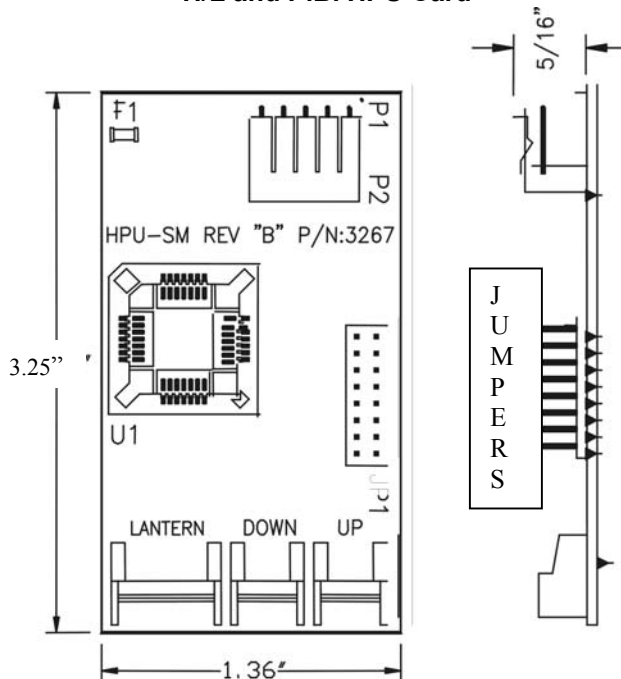

Figure 1-29
- Verify the HPU address jumpers are correct for that floor. [See Figure 1-29.]
- Verify the HPU address jumpers (JP1) match the SMI sheet for that floor. [See Figure 1-29.]